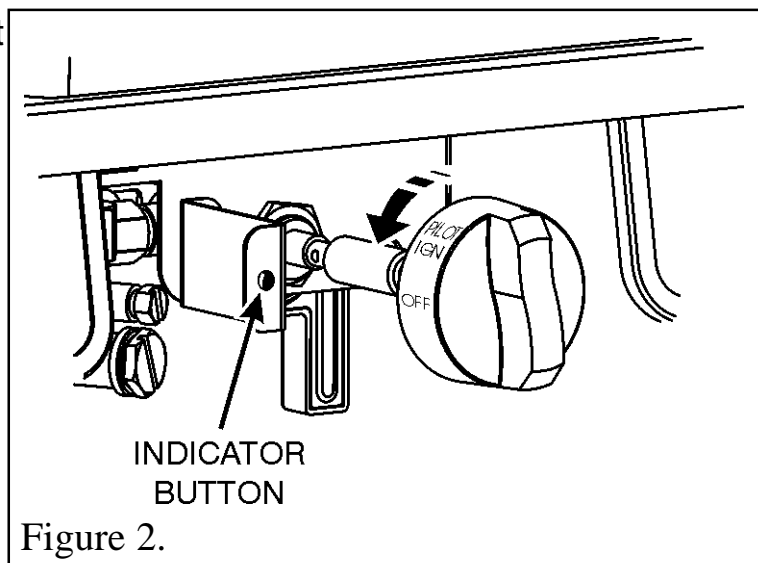

Figure 2.
1. Depress the control knob and rotate it anticlockwise to the pilot ignition position (See figure 2). A 'click' will be heard as the integral piezo operates. A flame should appear at the pilot. Keep the control knob depressed and hold the pilot ignition position for five seconds. When the control knob is released the pilot flame should remain lit. If a flame does not appear at the pilot then turn the control knob clockwise to the 'OFF' position and repeat the above.